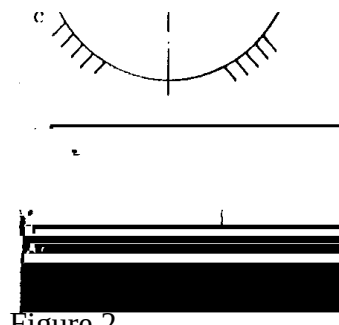

Figure 2
4. A planetary gear train is shown in (Figure 2). The sun gear A rotates in a clockwise direction and transmits 5 kW power at 1440 rpm to the gear train. The number of teeth on the sun gear A, the planet gear B, and the fixed ring gear C are 30, 60, and 150 respectively. The module is 4 mm and the pressure angle is 20° .